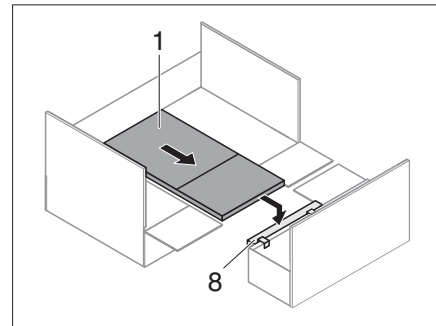

Fig. 221 Table on bedding box cushion
- Attach the bedding box cushion (Fig. 221,8).
- Pull out the hooking table (Fig. 221,1) and position on the hooked-in bedding box cushion (Fig. 221,8).